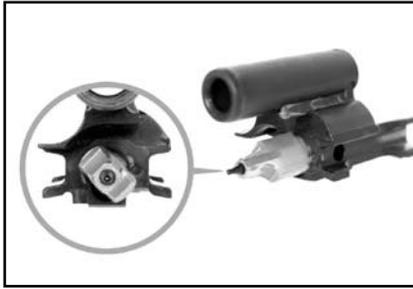

Fig. 40 – Assembly position for locking piece
Observe assembly position of locking piece (Fig. 40).
4. Turn locking piece anti-clockwise until assembly position has been reached (Fig. 40).